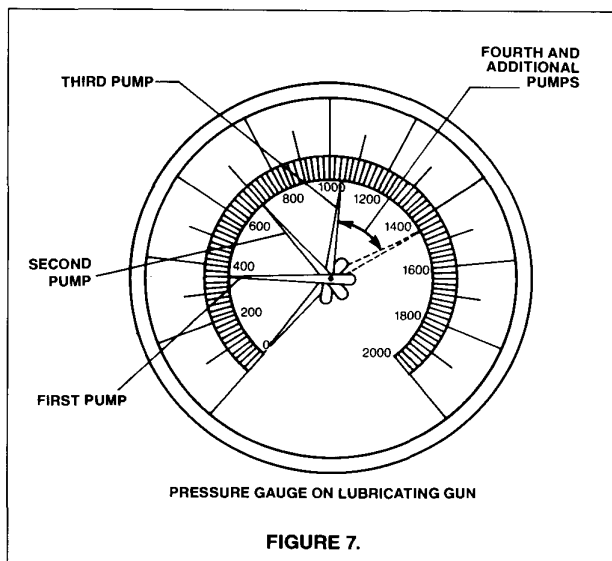

FIGURE 7.
c. Begin pumping the gun lever, observing the pressure gauge while doing so. The gauge will indicate a higher pressure with each stroke until the internal pressure is overcome. When this occurs, the pressure gauge needle will bounce between two points (See Figure 7).